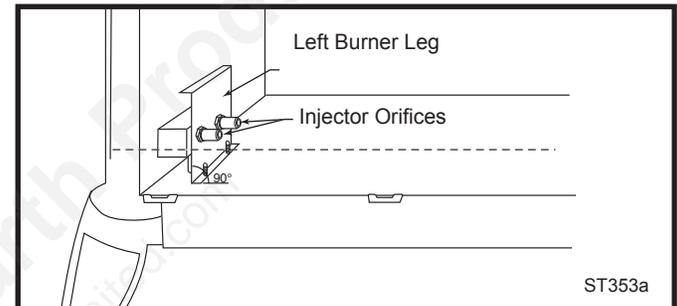

Fig. 35 Remove and replace injector orifices.
8. Remove injector orifices from left burner leg using 1/2" wrench. (Fig. 35)
NOTE: It is very critical to keep the left burner leg, which holds the injectors, at a 90° angle to the base. (Fig. 35) This keeps the orifices aligned with the tubes inside burner. Failure to do so could affect the flame appearance and performance of the unit.